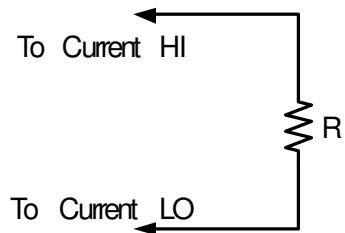
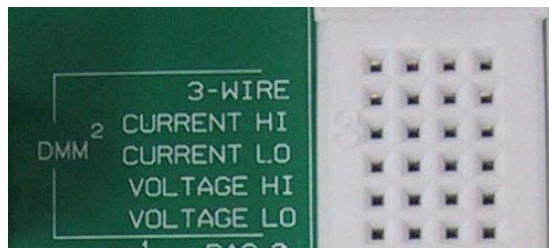

Fig. 3. Using Digital Multimeter SFP to measure value of a resistance.
Fig. 4. DMM Ports on the Elvis Prototype Board.
3. Connect the two terminals of the resistor between Current-HI and Current-LO terminals (refer to figure 4) on the proto board as shown in figure 3.